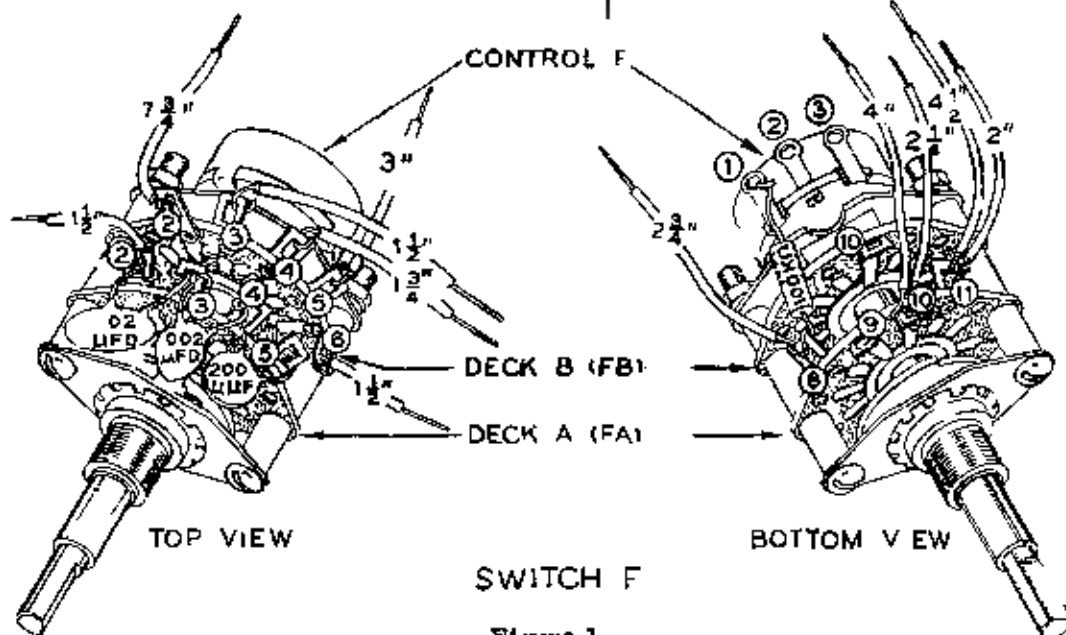

Figure 1
Refer to Figure 1 for the following steps.
- (✓) C10. Connect a 200 μ f capacitor between lugs FA4 (NS) and FA5 (S-1). Keep the body of the capacitor flat against the switch as shown in Figure 1.
- (✓) C9. Connect a .002 μ f capacitor between lugs FA4 (S-2) and FA3 (NS). Keep this capacitor close to the switch.
- (✓) C8. Connect a .02 μ f capacitor between lugs FA3 (S-2) and FA2 (NS). Again, keep the capacitor close to the switch.